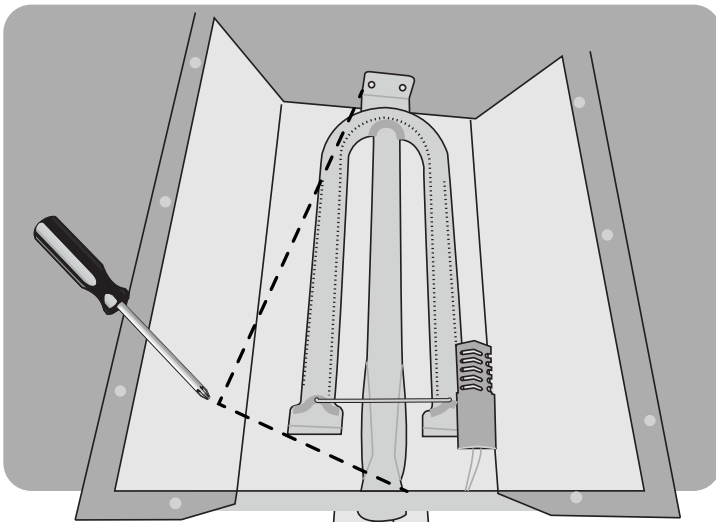

Figure 18
- 14** Follow steps 10 through 13 with the bottom burner using a 10 mm socket wrench (see Figure 18). Ensure the nozzles and burners are secured properly. When finished, replace drip pan and sliding racks.